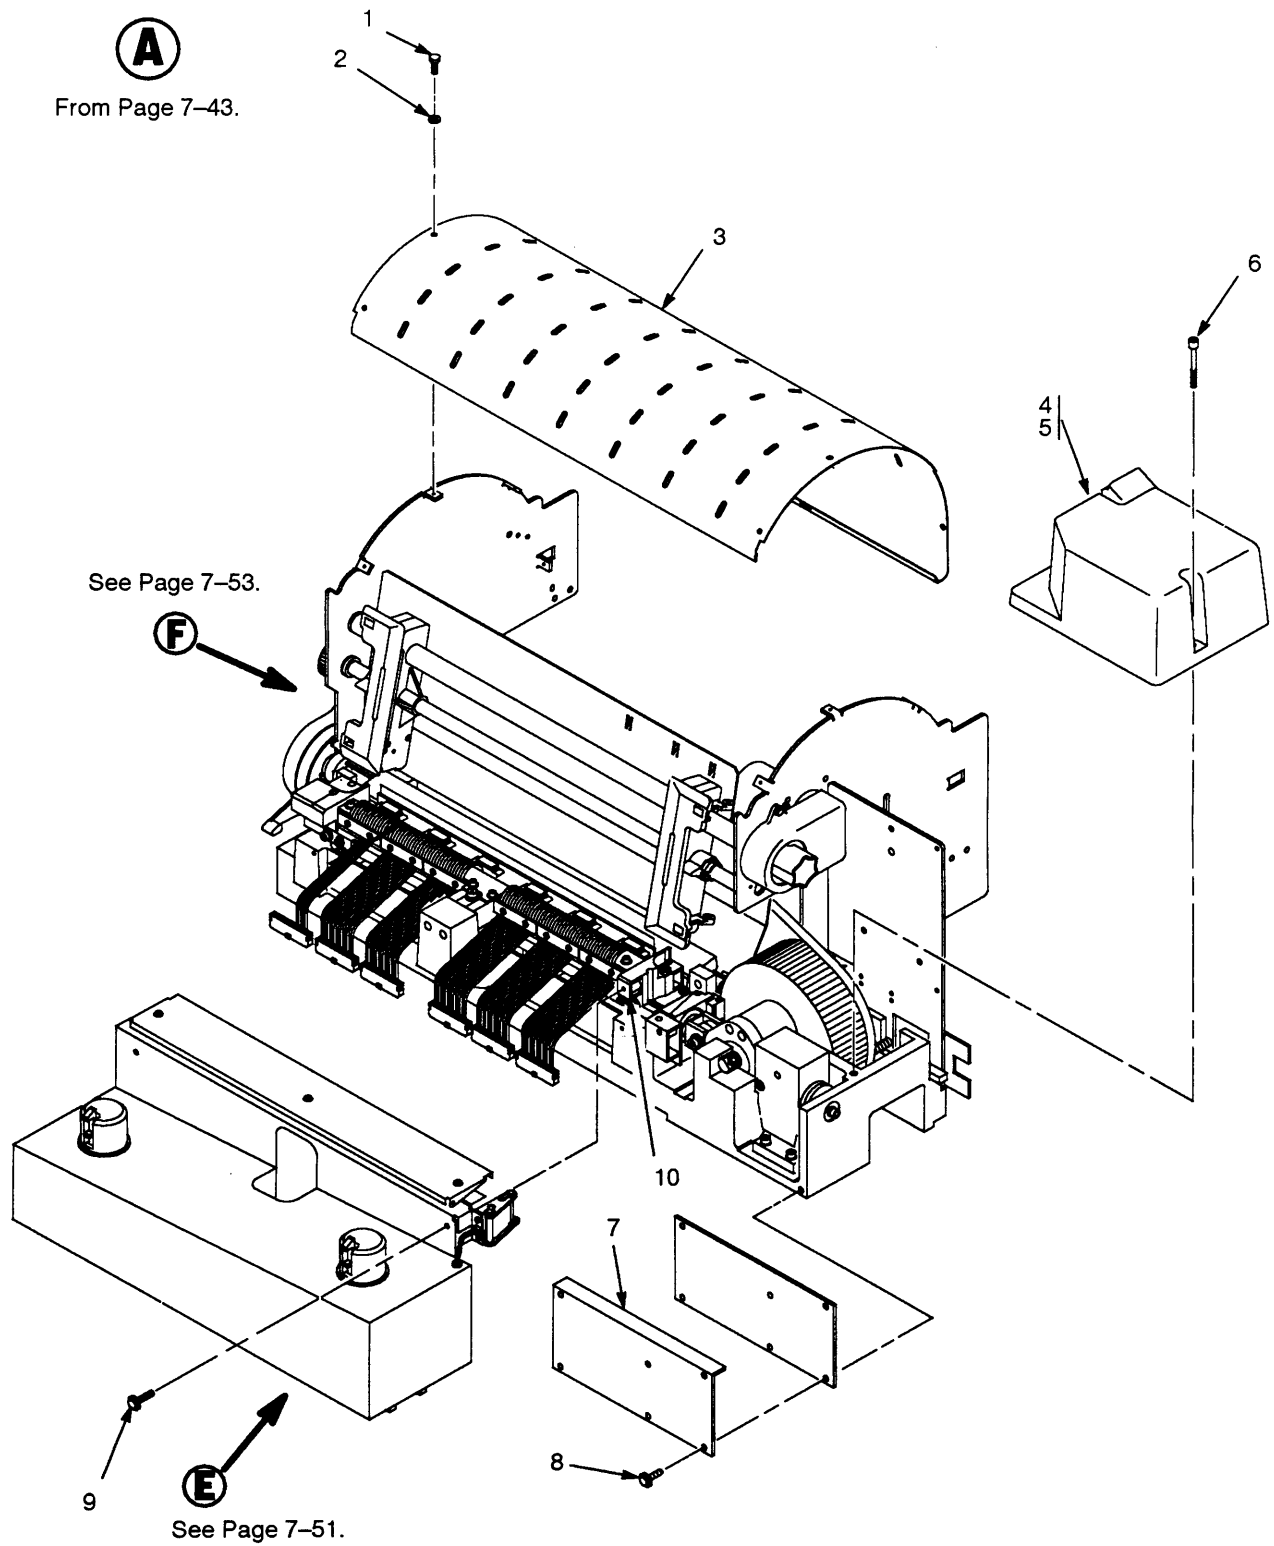

Figure 7-9. Print Mechanism
3. Remove the paper path. (See Figure 7-9, page 7-49.)
4. Remove the cam cover. (See Figure 7-9, page 7-49.)